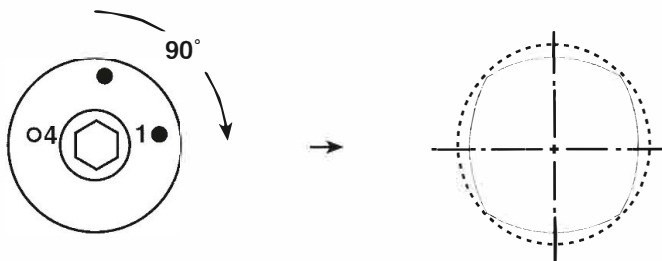

Fig. 5. ○ - vacant Hole ● - screwed Hole
4. Stop the lathe and unscrew the hexagonal socket from the workpiece. Rotate it through 90° , to align with the 'new' pair of holes, return the ball drive to side '1', then secure once gain with your woodscrews. (Fig. 5.) Turn the third side.